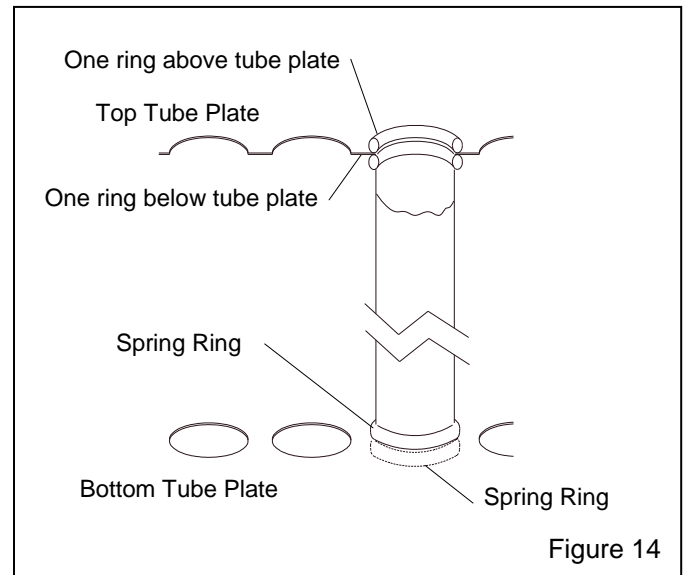

Figure 14
#### 6.4 Dry Filter Tube Replacement, Figure 14
**6.4.1** Replace damaged filters immediately. Remove the old filters by pulling the spring rings off the bottom and top tube plates. Working from the back to the front, install one filter at a time. To install new filters, form the end of the spring ringed tubular filter into a shallow "c" shape, push the filter far enough into the hole of the top plate to allow one spring ring to snap into place above the tube plate and the other to snap into place below it. See the illustration in Figure 14.